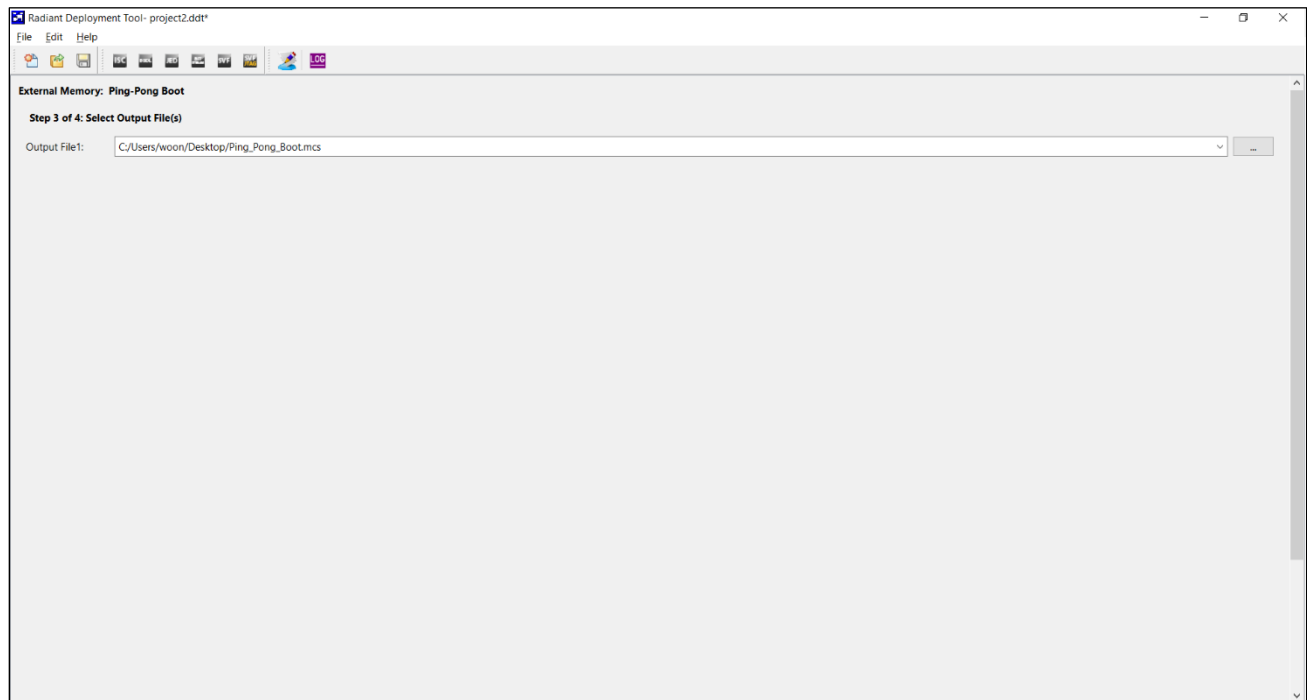

Figure 7.9. Select Output File(s) Window
Step 3 of 4: Select Output File(s) window (Figure 7.9)